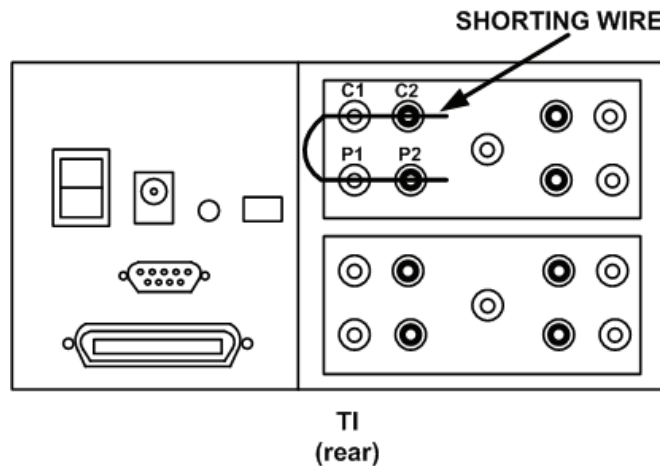

Figure 1. 0 ohm connection.
- (1) Remove the PRT from the TI and connect a shorting wire (0  $\Omega$  resistance) to the TI channel being calibrated as shown in figure 1.